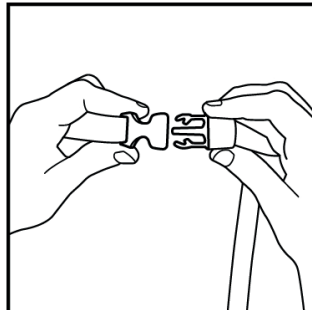
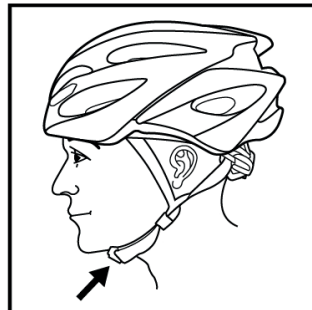

Figure 4
Figure 6
**ADJUST THE CHIN STRAP** Always wear the helmet with the chin strap buckle fastened and the strap pulled tight. Figures 4 and 5 show how to fasten and release the buckle. Make sure the strap is well back against the throat, NOT on the point of the chin. Straps worn on the point of the chin increase the chance of the helmet coming off in an accident. Figure 6 shows the proper position of the chin strap.